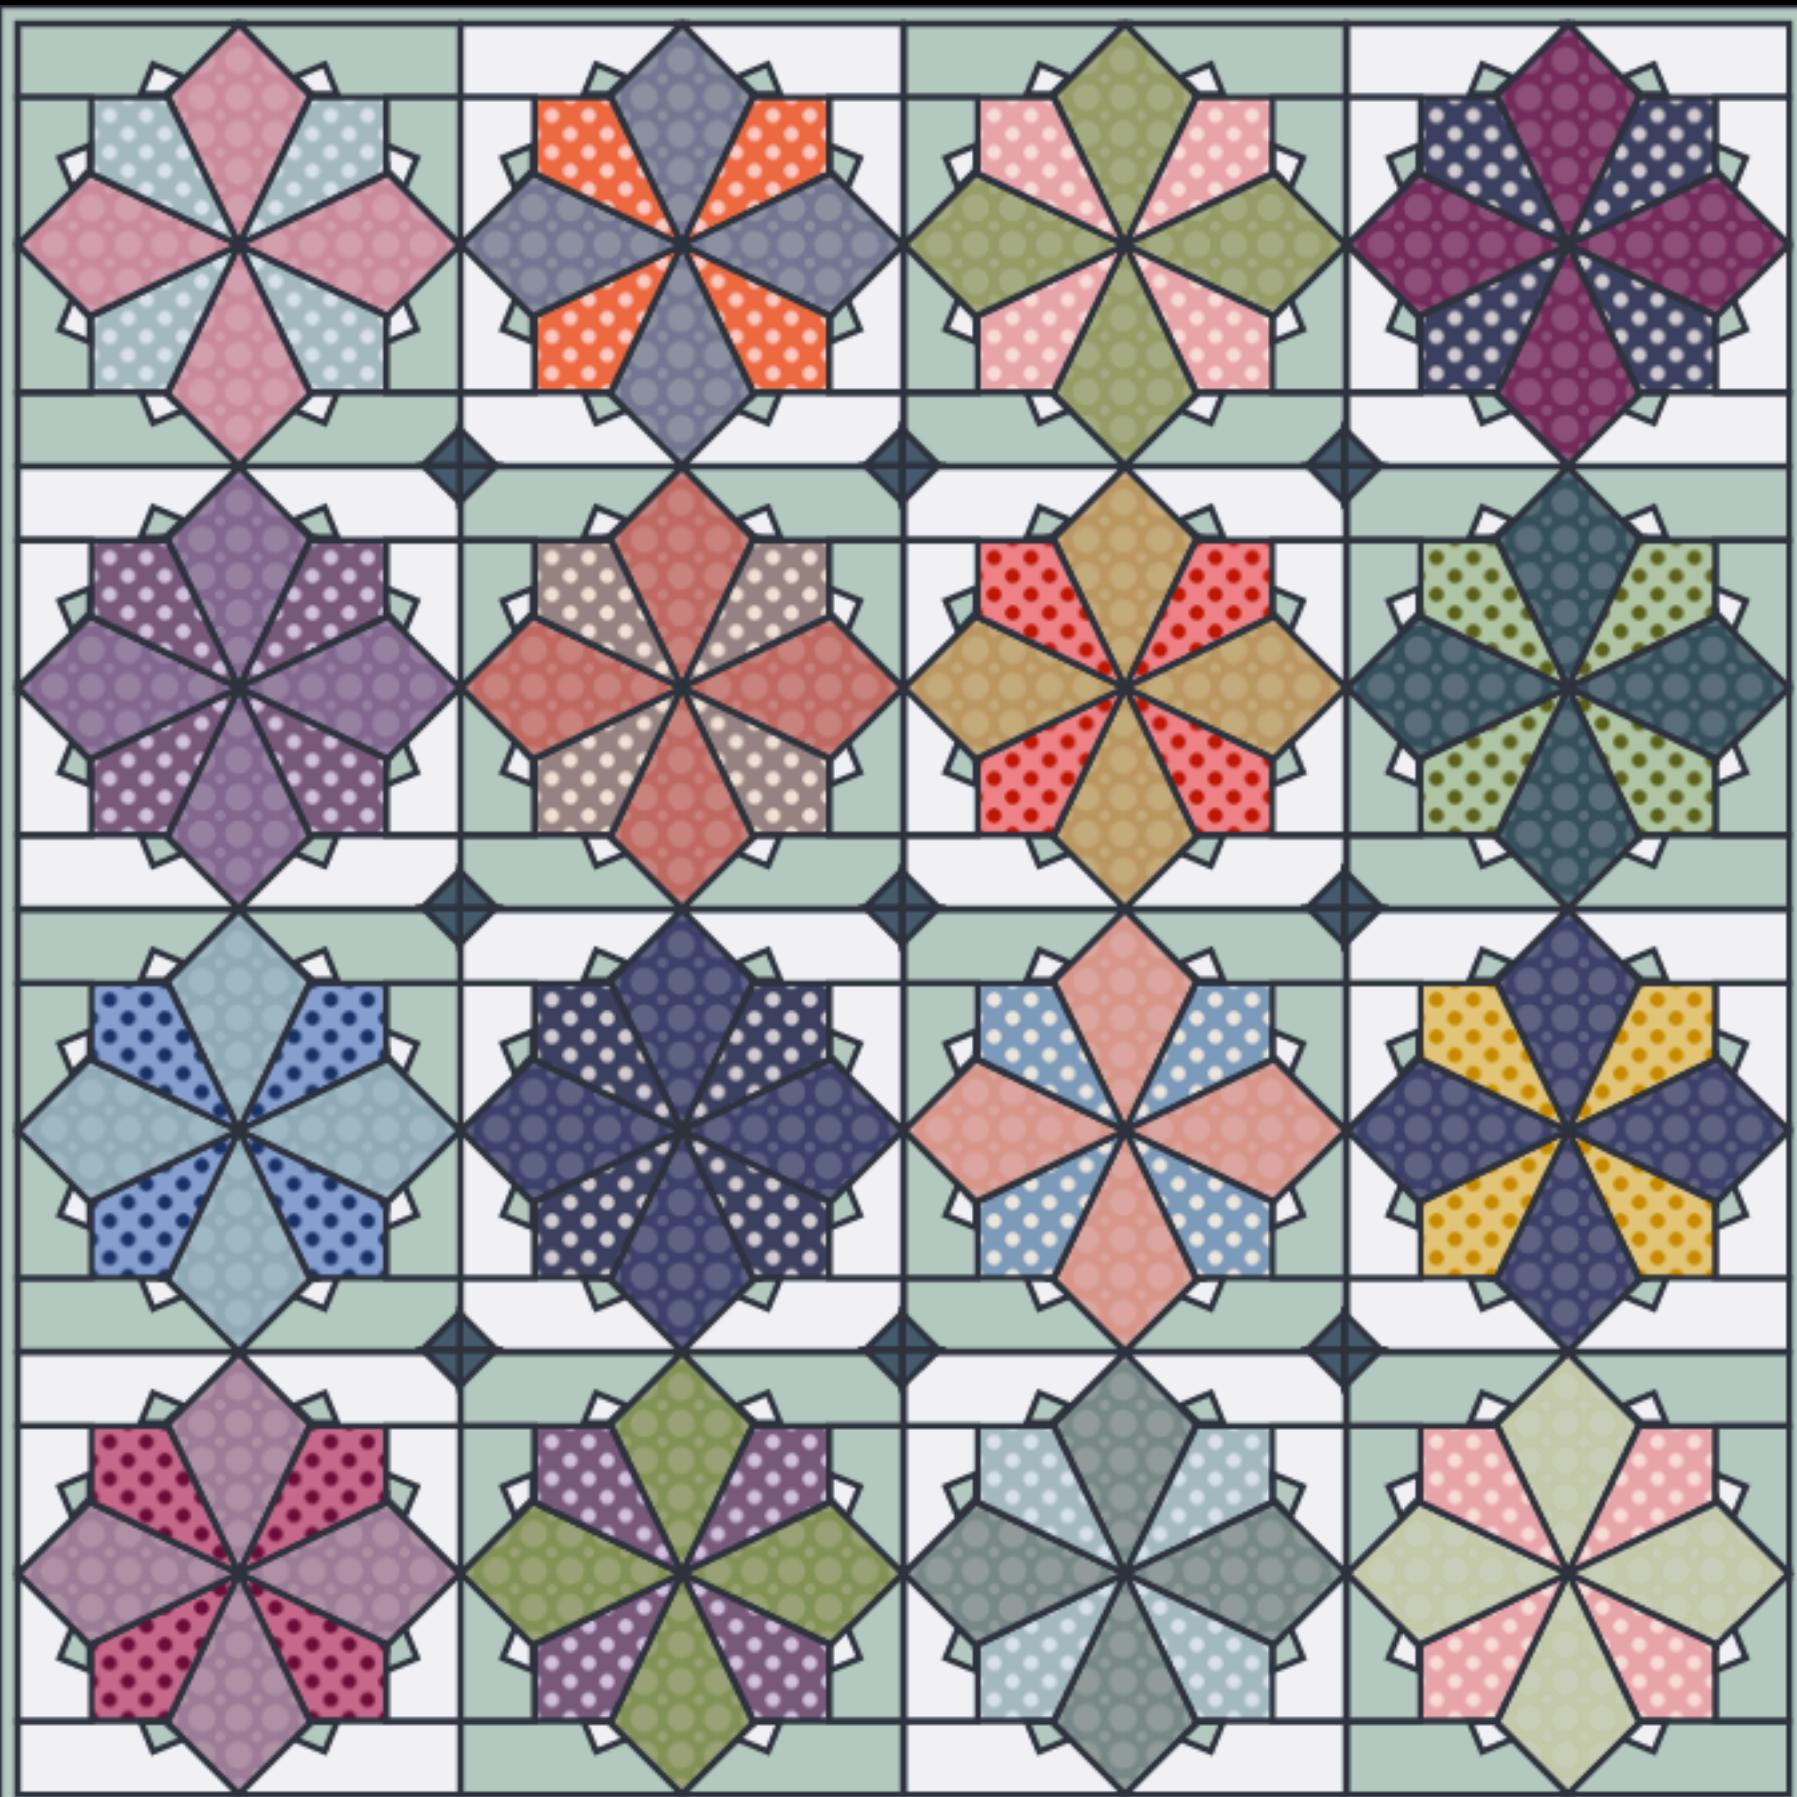

Fig. 3 HSTs
Stitch a 1/4" seam on both sides of the drawn line (see figure 3), cut along the drawn line, and press the seam allowance toward the darker fabric. Note: It is helpful to press the (B) towards (C) to provide an easier nesting of seams.